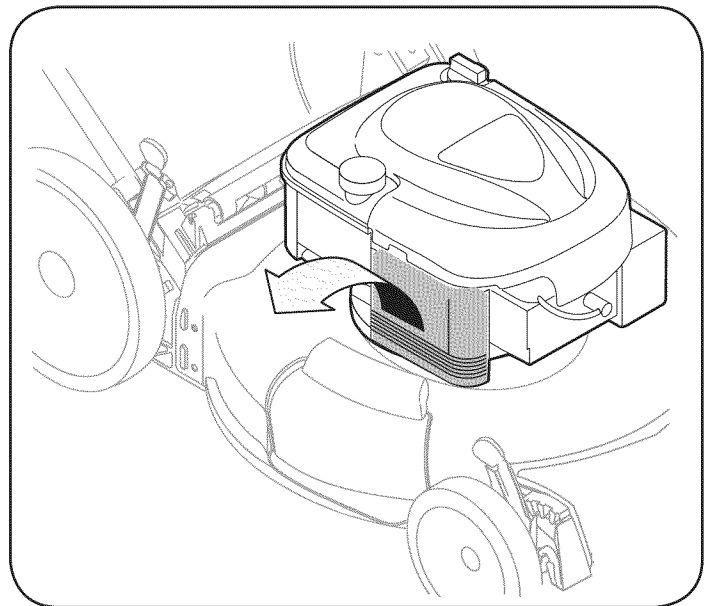

Figure 16
1. Loosen the fastener that holds the cover and tilt plastic housing cover on side of engine down. See Figure 16.